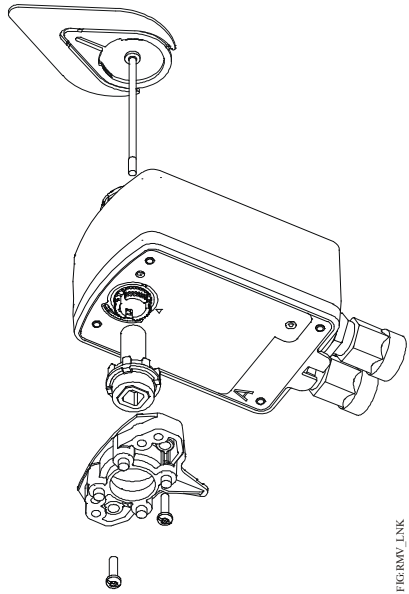

Figure 5: Removing the linkage
3. Remove the linkage from Side A (Figure 5).